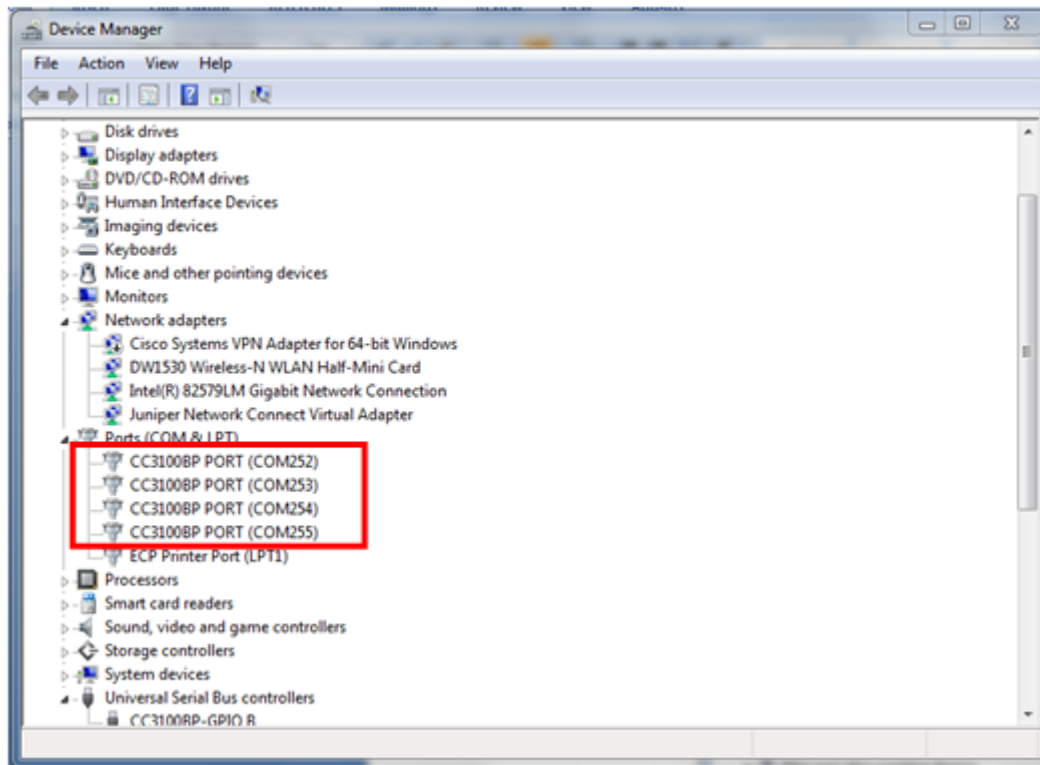

Figure 4. Device Manager
5. The CC3100BOOST is now visible in the Device Manager as shown in Figure 4. The user may see two COM ports instead of four.